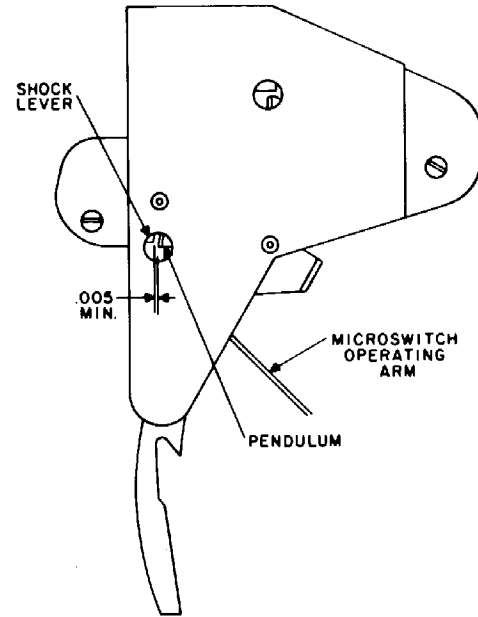

Figure 9. Pendulum and Shock Lever with Cover Installed.
- (d) Reinstall the cover of the pendulum and shock lever. Make sure the pivots come through the small holes in the cover, then tighten the mounting screws securely. Place the chute in the vertical position and the microswitch operating arm in the unlatched position. Through the lower bearing hole, check that there is a minimum clearance of .005 inch between the pendulum and the shock lever dog. (See Figure 9.)
- (e) With the operating arm engaged in the pendulum notch and the upper housing tilted counterclockwise approximately 30 degrees, the shock lever must turn counterclockwise freely to the locking position. This can be observed through the lower bearing hole. (See Figure 9.)
- (1) The operating arm must clear the case and mounting screws of the microswitch, the pendulum and shock lever cover, and the 2-nickel mechanism mounting plate by at least 1/32 inch. Gauge by eye.